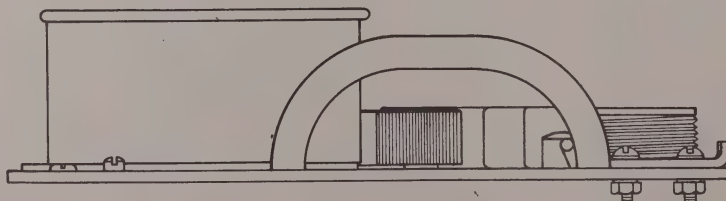

Figure 2-5. Panoramic Adapter AN/APA-10 — Panel Controls
b. CHANNEL A.—(All controls reference numbers apply to figs. 2-5, 2-6, 2-7 and 1-2.)
(1) Turn the "CHANNEL SELECTOR" switch (8) located on the panel of the indicator to A position. A trace should appear on the screen within 30 seconds and should fall about $\frac{3}{4}$ inches below the center.